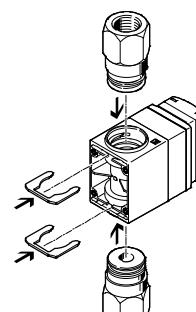

Fig. 10 Mounting fluid connection: Check that the O-ring is seated correctly.
- Mount fluid connector (→ Fig. 10).